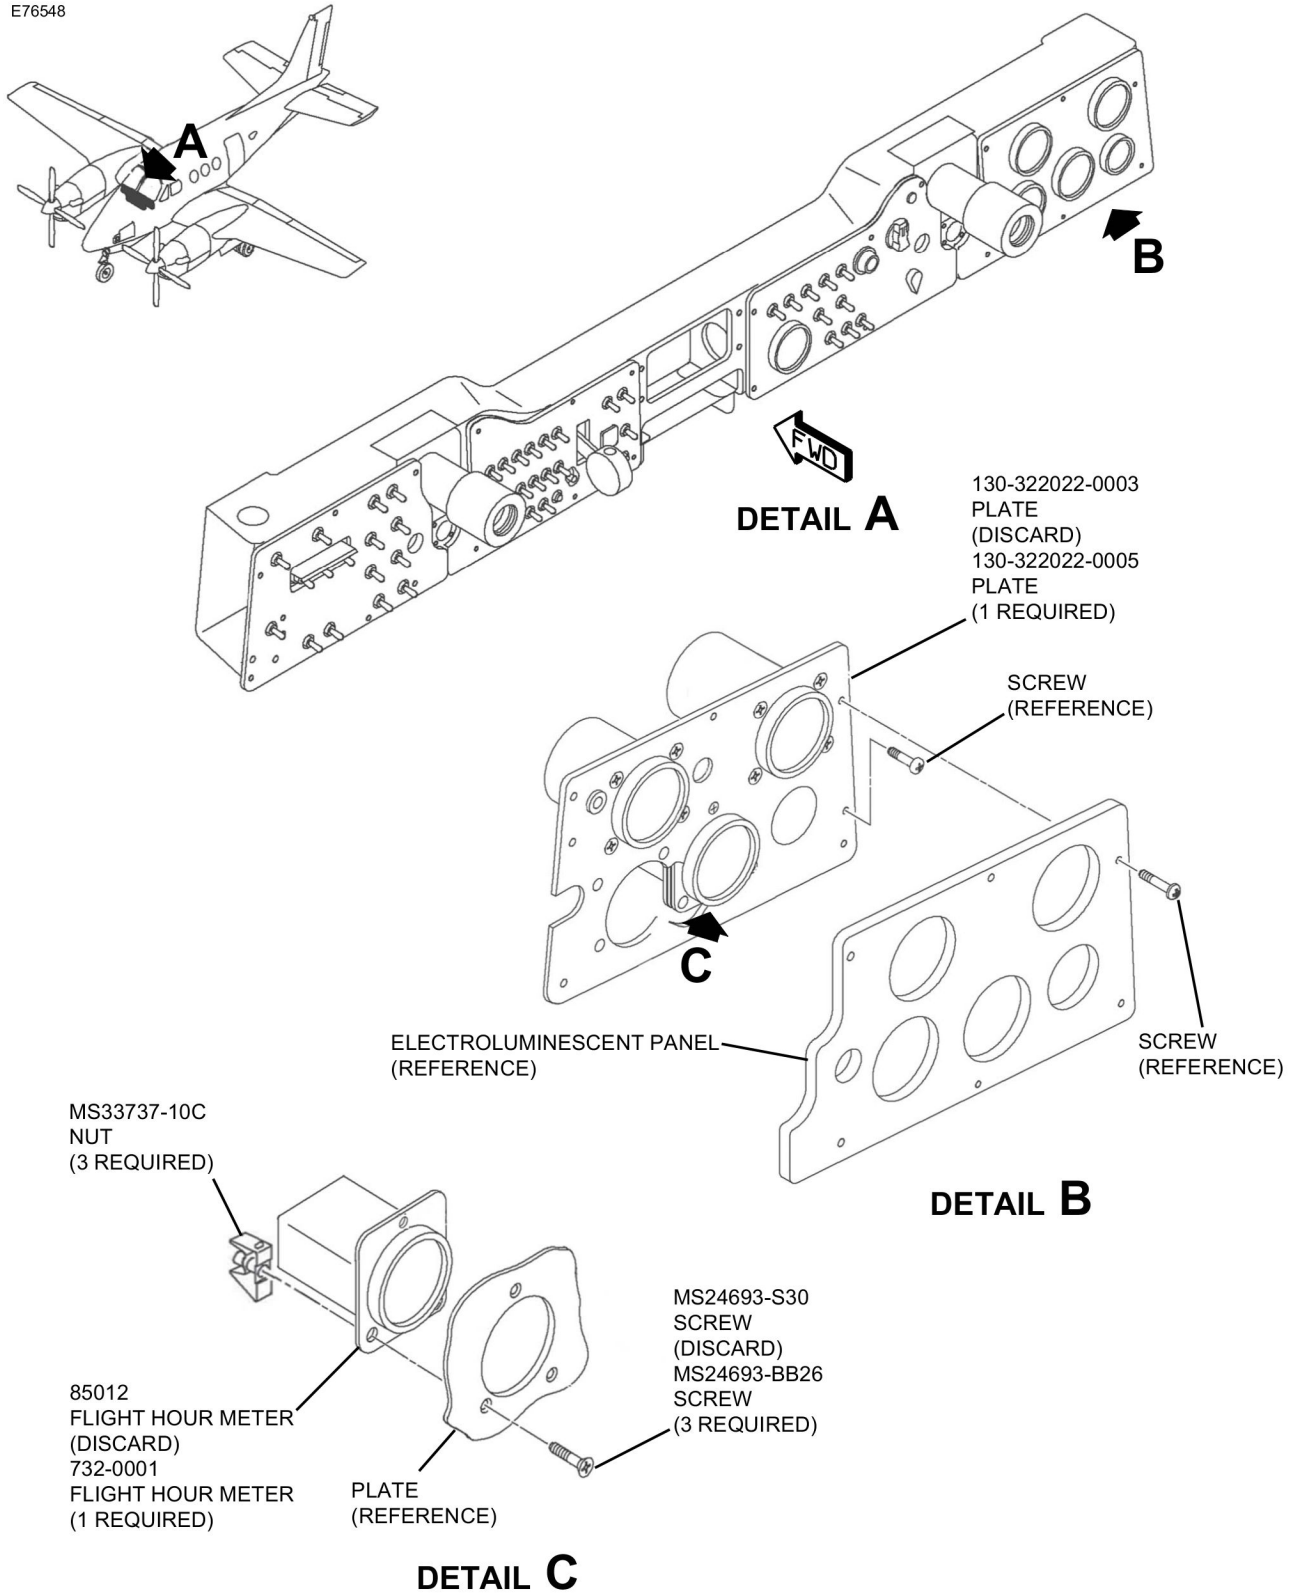

Figure 1. Flight Hour Meter Installation (Sheet 1)
2. (Refer to Figure 1, Sheet 1.) Remove and retain six screws that attach the electroluminescent panel and plate to the sub-panel support structure.